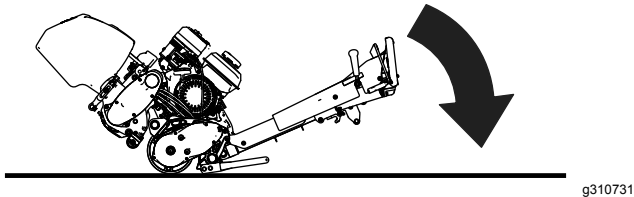

Figure 5
2. Bedknife adjusting screw nut (2)
- With the cutting unit attached to the machine, lower the traction-unit handle to the ground (Figure 5).